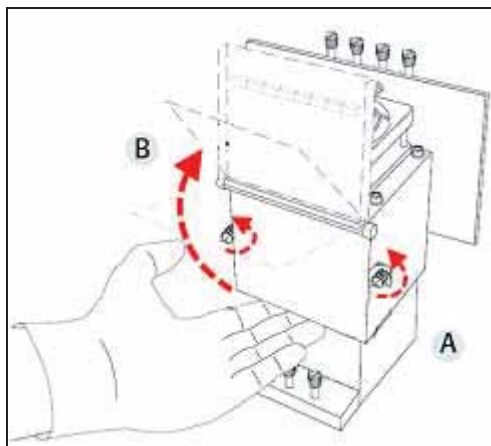

Figure 6-68: Opening the print-head compartment
- Open the print head compartment (see figure 6-68 on page 46).